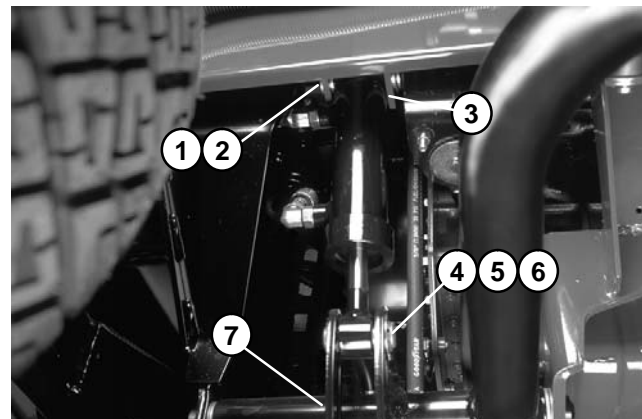

Figure 98
5. Remove rear lift cylinder (Fig. 98).
1. Install rear lift cylinder (Fig. 98).